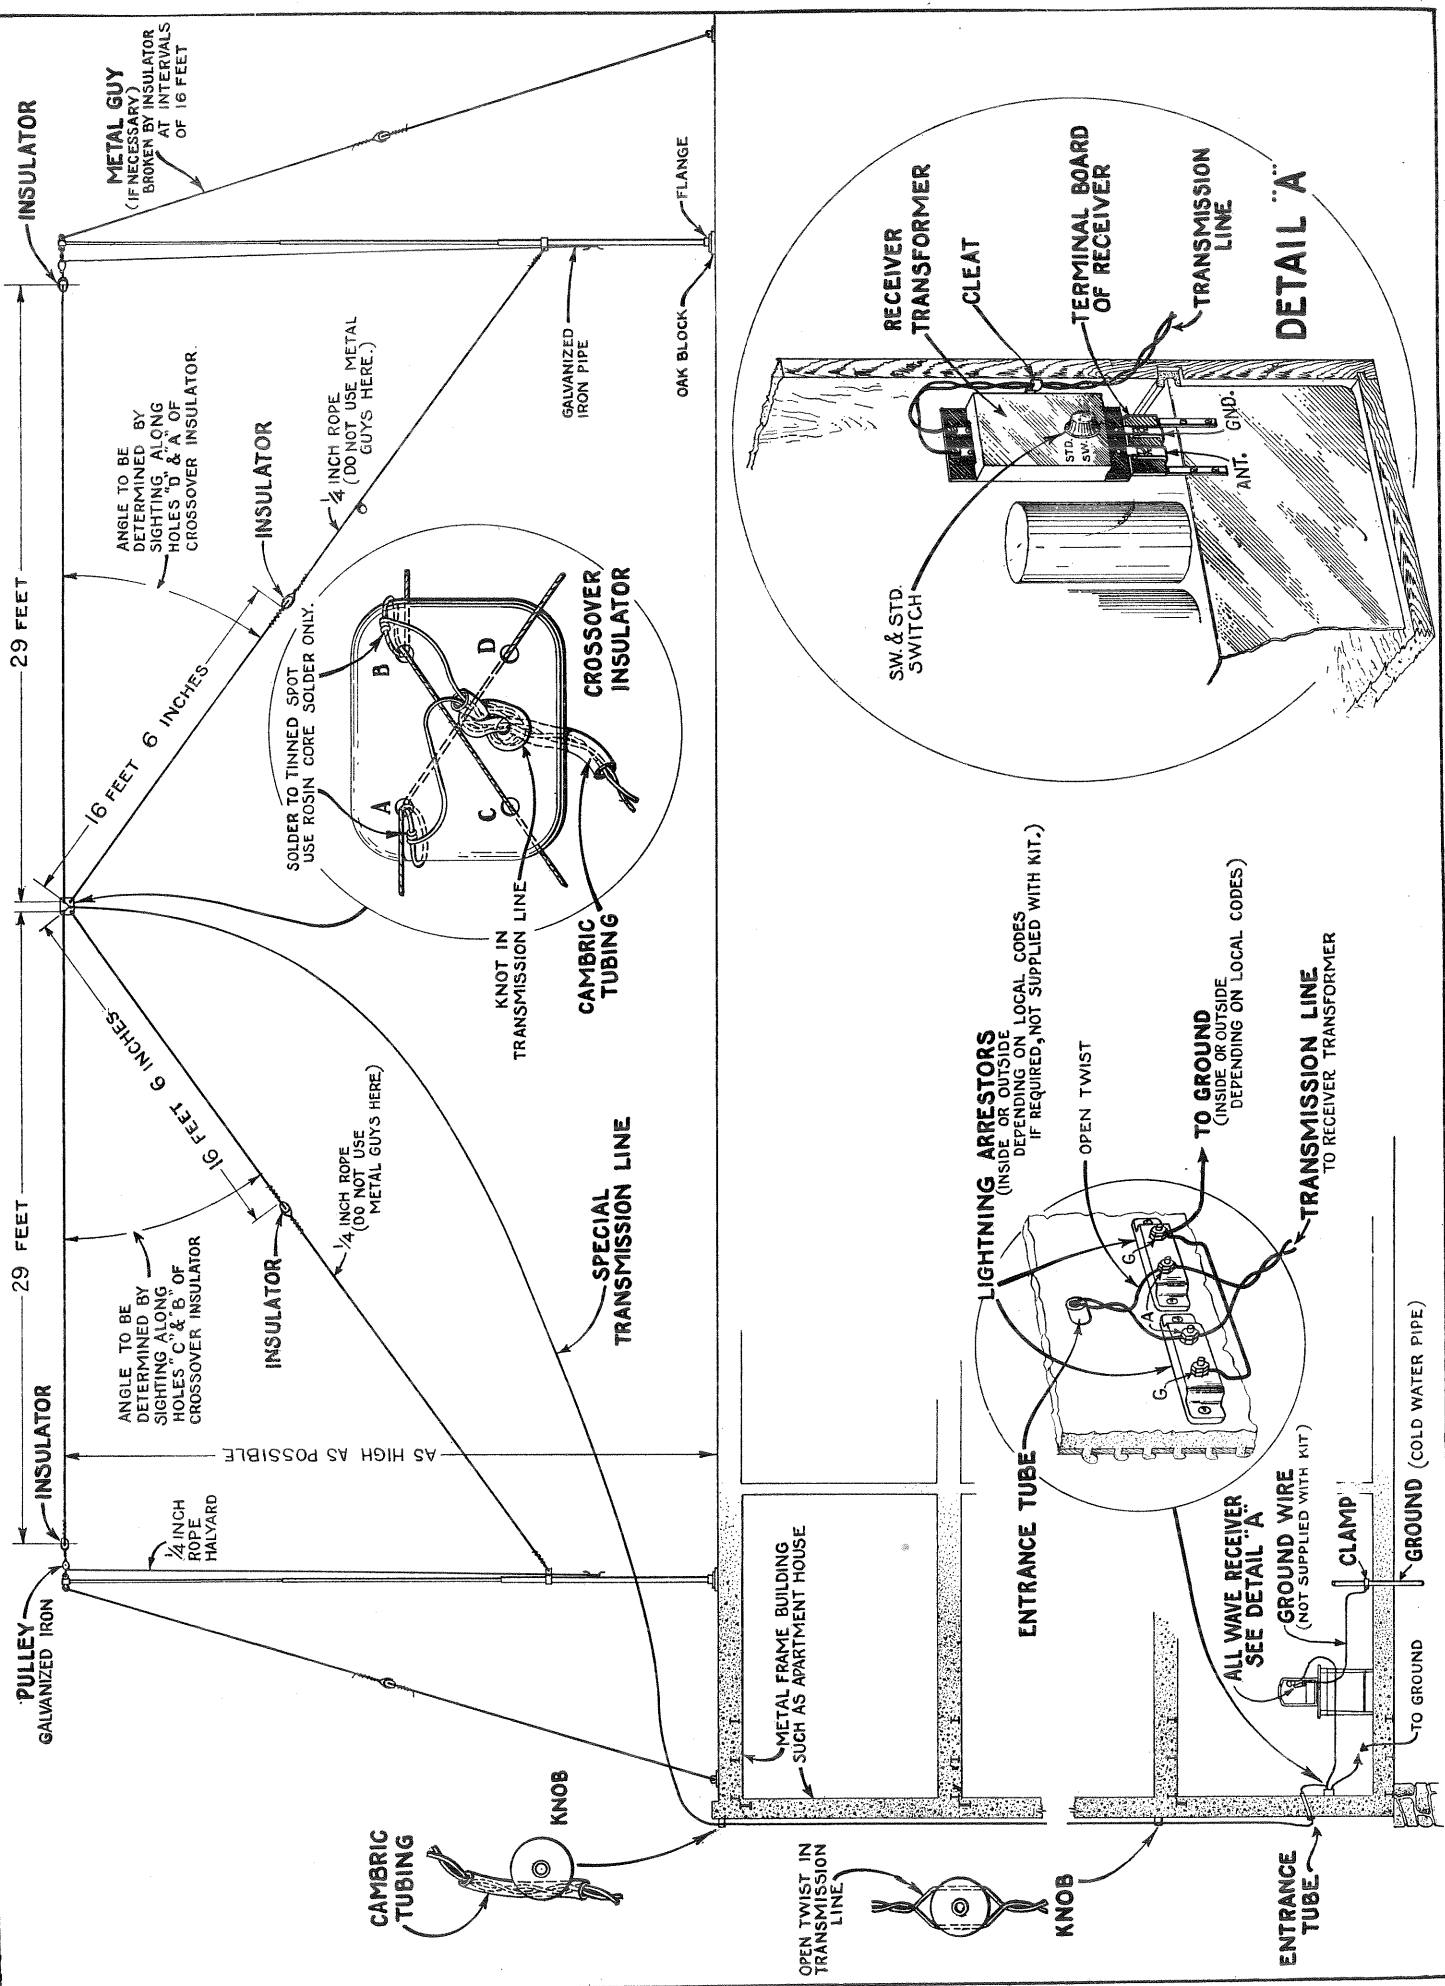

Figure 1
A typical installation of the RCA "World-Wide" Antenna System is shown in the full-page illustration (Figure 1). Although various forms of installation are possible to satisfy space limitations, the arrangement illustrated is convenient and practical and therefore should be used if possible. All parts necessary for this arrangement, except the supporting poles, are supplied.
- 1 or 2 antenna masts with auxiliary apparatus such as the rope halyards, metallic guy wires, pulleys, iron pipes, base blocks and base flanges shown in Figure 1.
The actual set-up of the antenna system is very simple and can be performed by practically anyone. Since the means of supporting the antenna will of necessity be different in almost every case, that portion of the installation will not be discussed herein. General recommendations in this respect, however, are contained in Figure 1. Insofar as possible, the intent of such recommendations should be observed, even for different forms of mounting.
Assembly—As shown in Figure 1, the two doublet antennas which comprise this system are formed by the two stranded wires supplied with the kit. By means of the porcelain crossover insulator, these wires are crossed to produce two horizontal sections, each 29 feet in length, and two angularly-displaced sections, each $16\frac{1}{2}$ feet in length. An extra length of six inches is afforded at each end of both continuous wires for connection to the porcelain strain insulators, both (as noted under "Equipment") being $46\frac{1}{2}$ feet long. In assembling these wires to the crossover insulator, be careful that the actual cross occurs on opposite sides of the insulator.
The transmission line finally should be connected to the antenna wires as indicated by the detail illustration of the crossover insulator in Figure 1. A tinned spot on each wire is provided to identify the points at which the transmission line should be attached. Make certain to insert the piece of cambric tubing at the insulator and to use only rosin-core solder for the connections as recommended. The antenna now may be suspended between the masts or intended points of support.
Connection to Receiver—The opposite end of the transmission line should be led to the receiver, using the porcelain insulator knobs (if required) and the porcelain entrance-tube insulator. Then install the coupling transformer upon the antenna-ground terminal board of the receiver, as shown in Detail A of Figure 1, and attach the transmission line to this transformer. A metal cleat and wood screw are provided to secure the transmission line to the receiver cabinet.